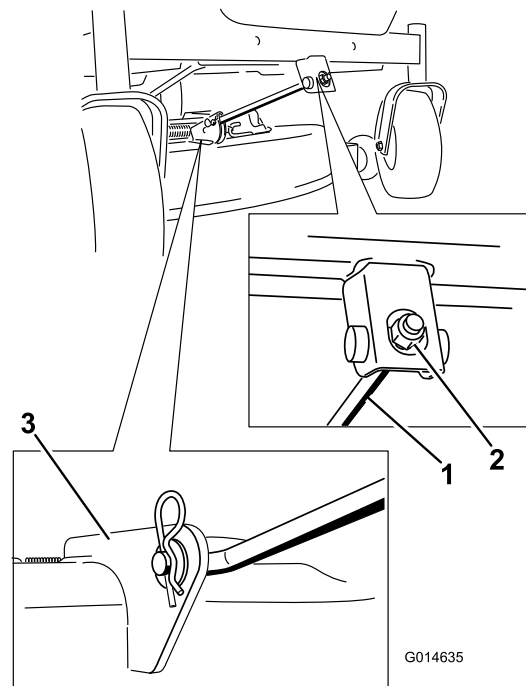

Figure 69
4. Remove the hairpin cotter from the front support rod, and remove the rod from the deck bracket (Figure 69).
8. Attach the front support rod to the mower deck with the clevis pin and hairpin cotter (Figure 69).